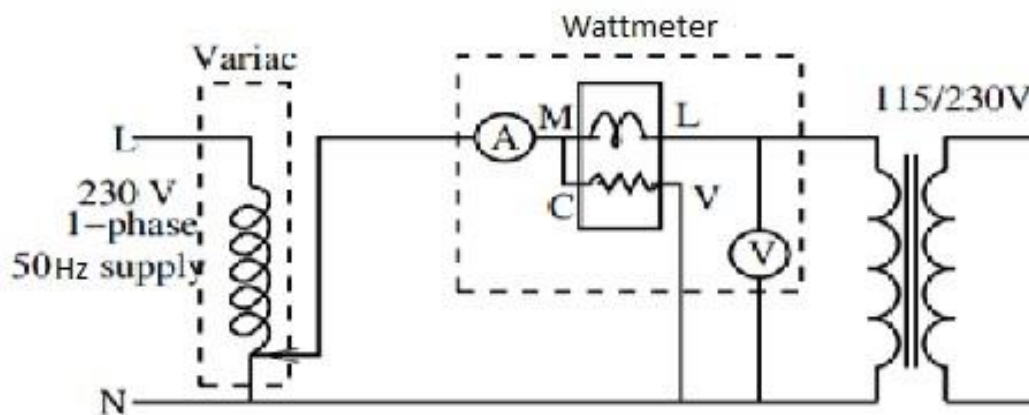

Fig1. Circuit Diagram for Open Circuit Test.
1. Make the connections as per the circuit diagram in fig. 1.